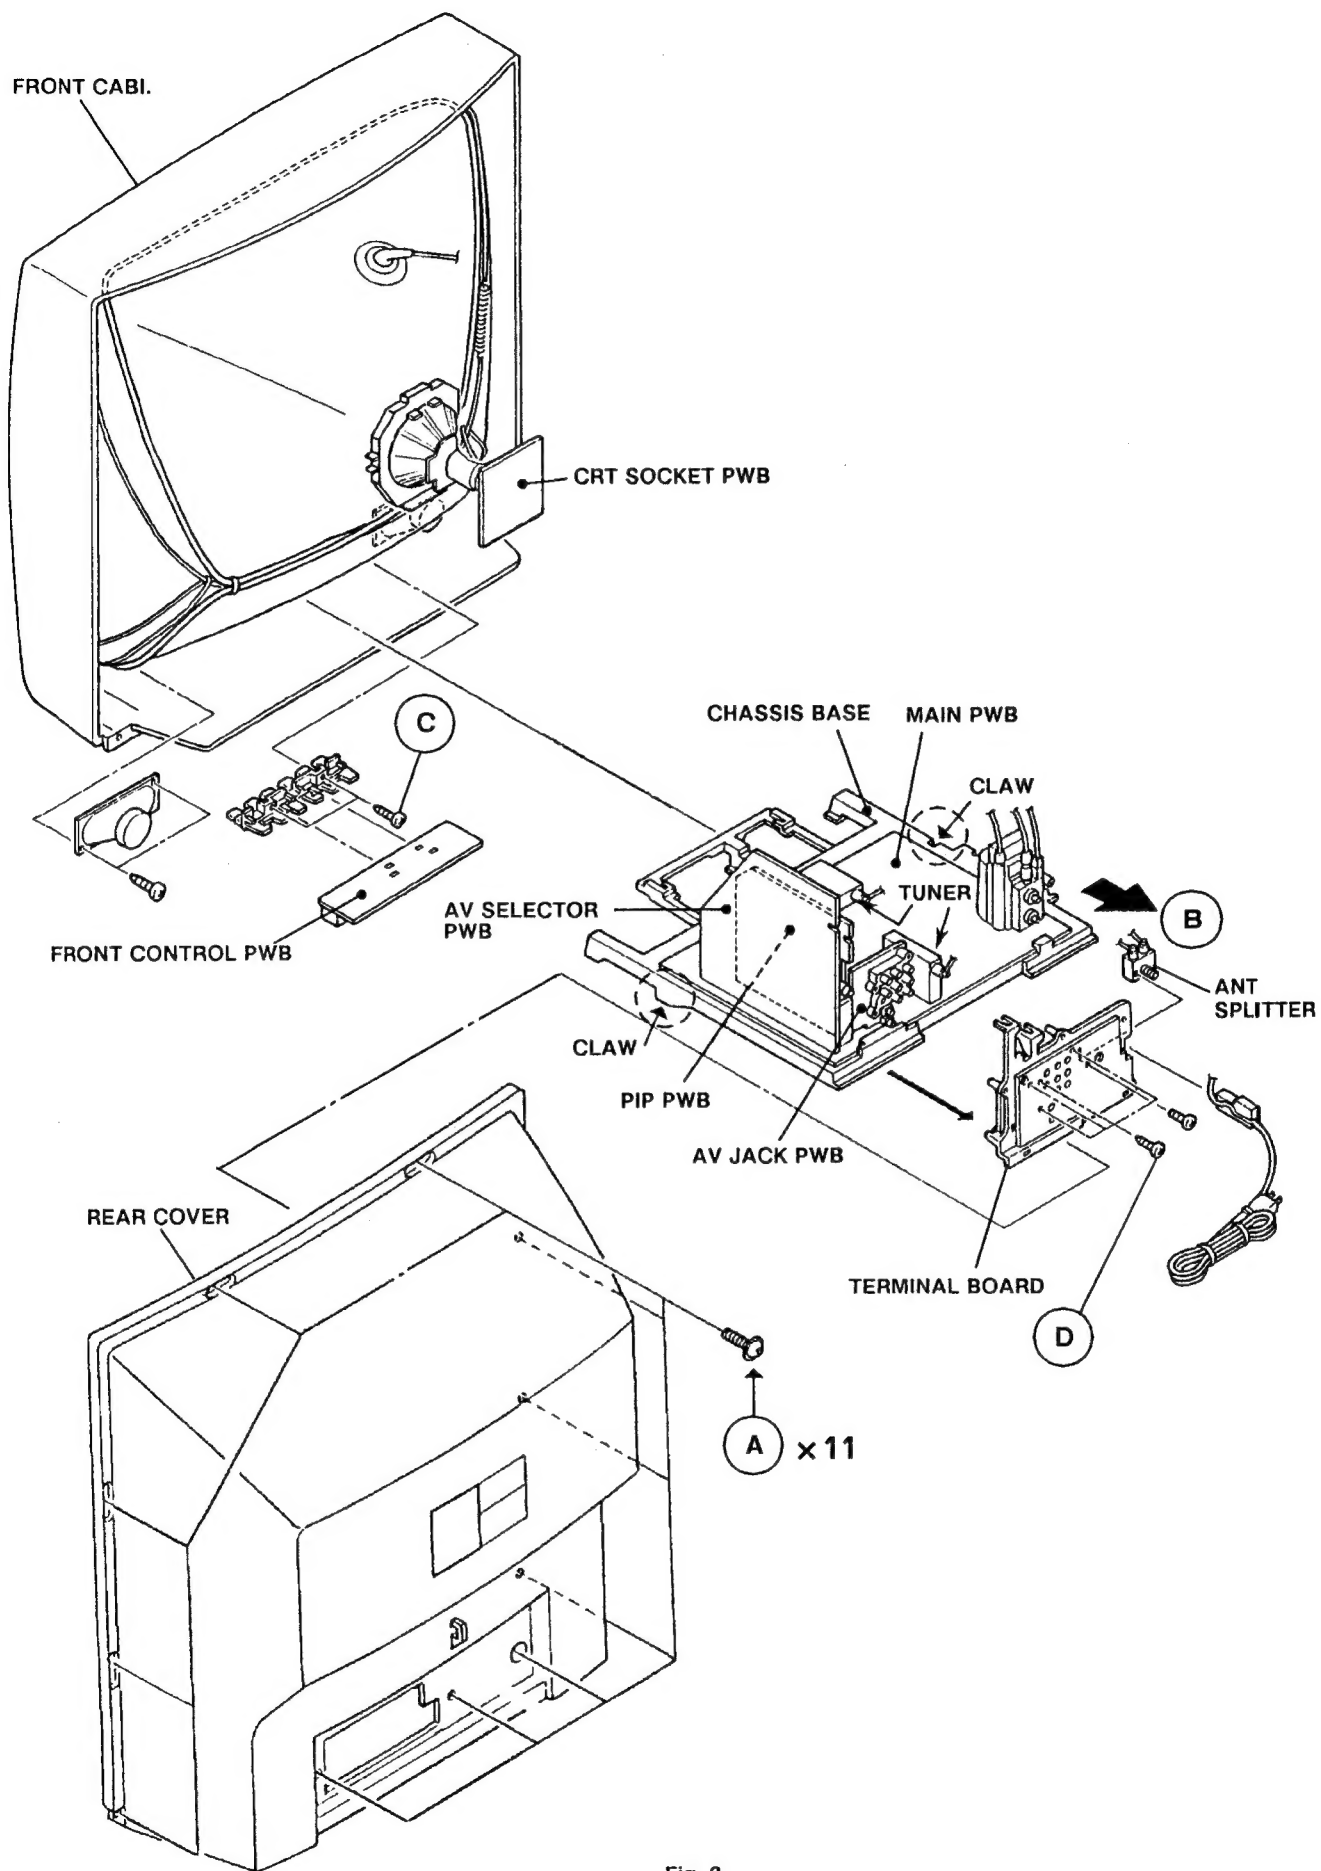

Fig. 2
2. Remove the 11 screws marked (A) as shown in Fig. 2.
2. Draw the chassis backward along the rail in the arrow direction marked (B) as shown in the Fig. 2.
1. Remove the 2 screws marked (C) as shown in Fig. 2.
1. Remove the 4 screws marked (D) as shown in Fig. 2.